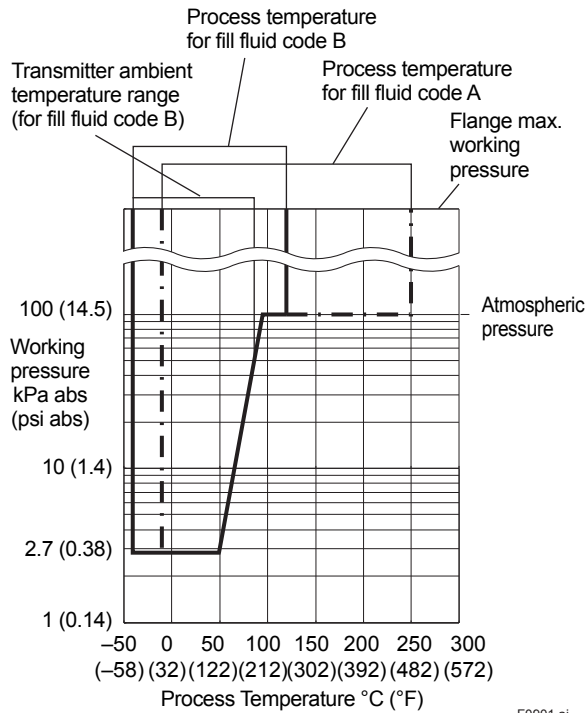

Figure 9.1 Working Pressure and Process Temperature (Fill fluid: silicone oil for general and high temperature use)
*1: See figure 9.1 'Working Pressure and Process Temperature.'